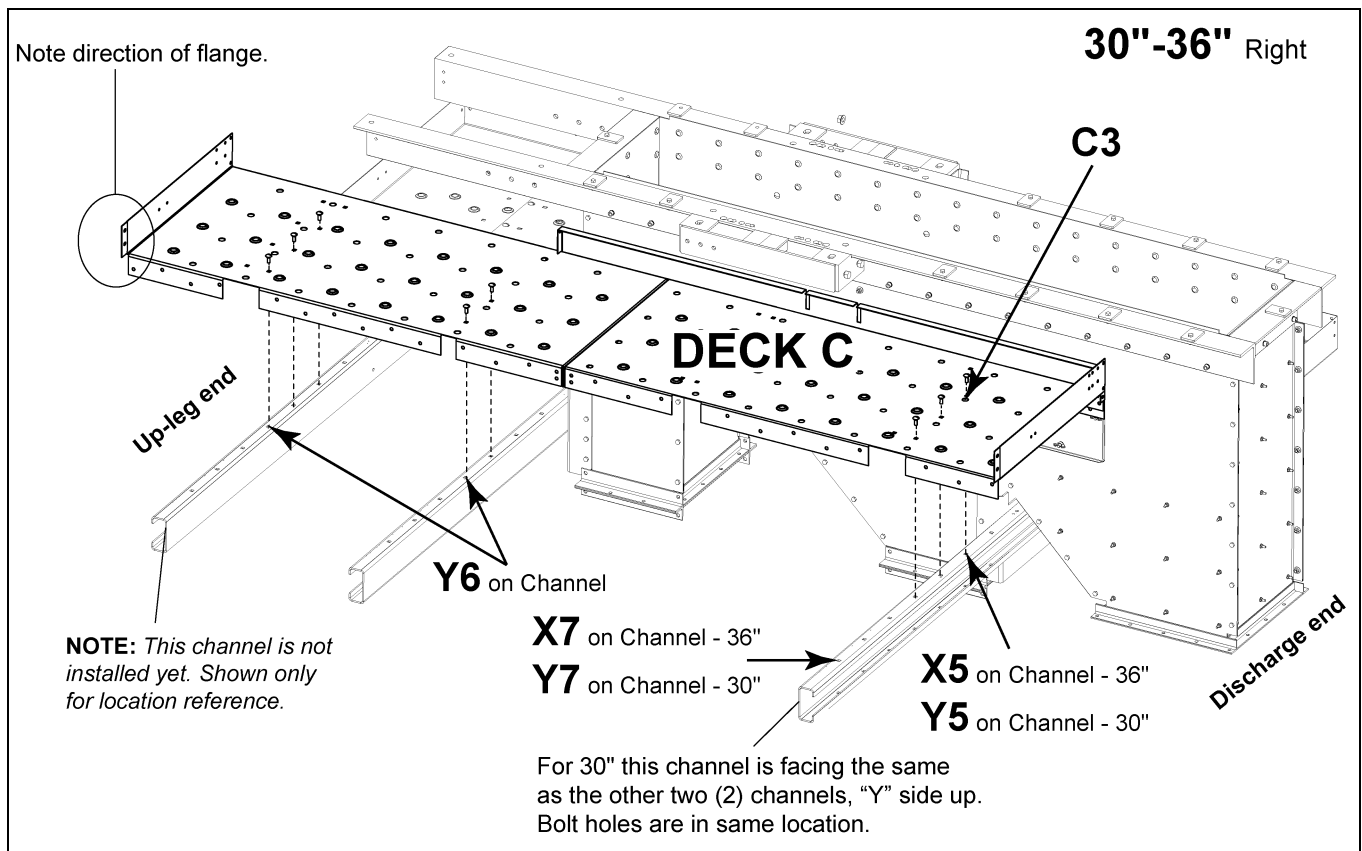
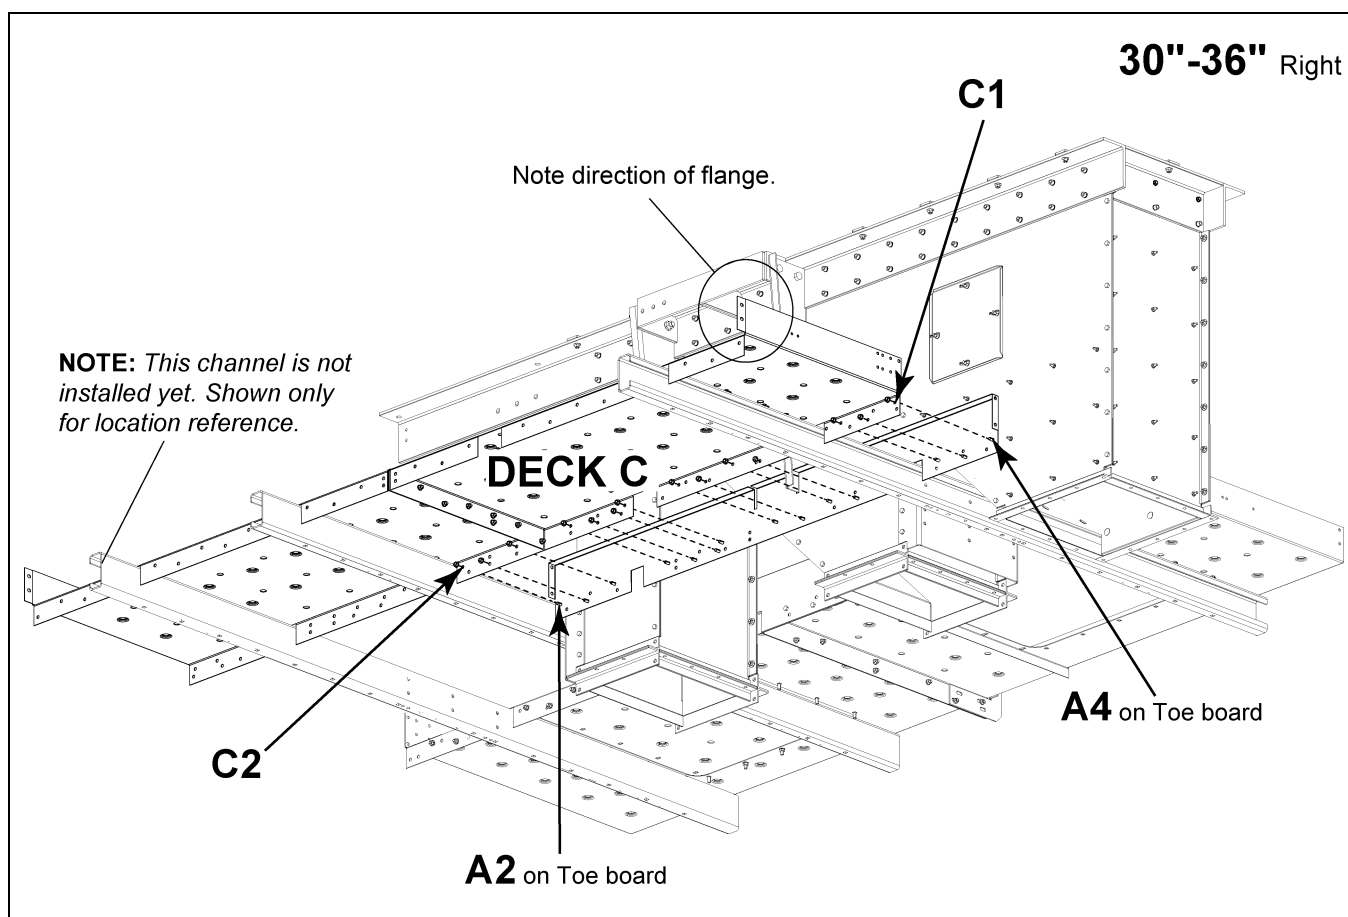

Figure 8J Deck C to Cross Deck Support Channels
Figure 8K Underside View of Deck C to Toe Board
(See Figure 8J and Figure 8K on Page 70.)
5. Connect cross deck support channel and Deck C using 3/8" x 1" carriage bolts (S-3585) with flange nuts (S-10028). Connect all holes between channel and deck. (See Figure 8J.)